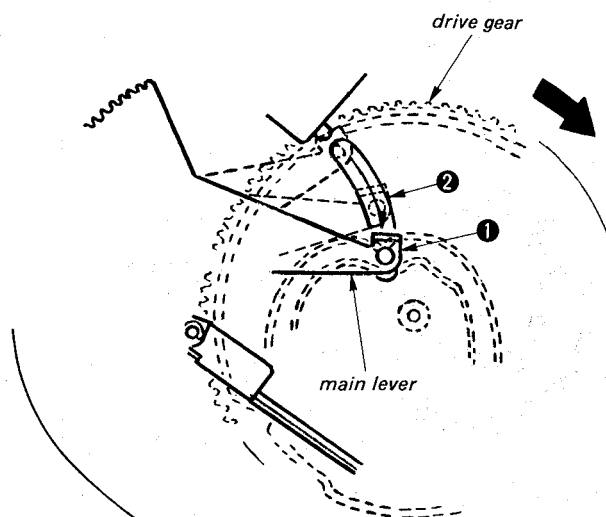

Fig. 1
1. Rotate the drive gear in the direction of the arrow as Fig. 1 and set the main lever in the position ① as illustrated.